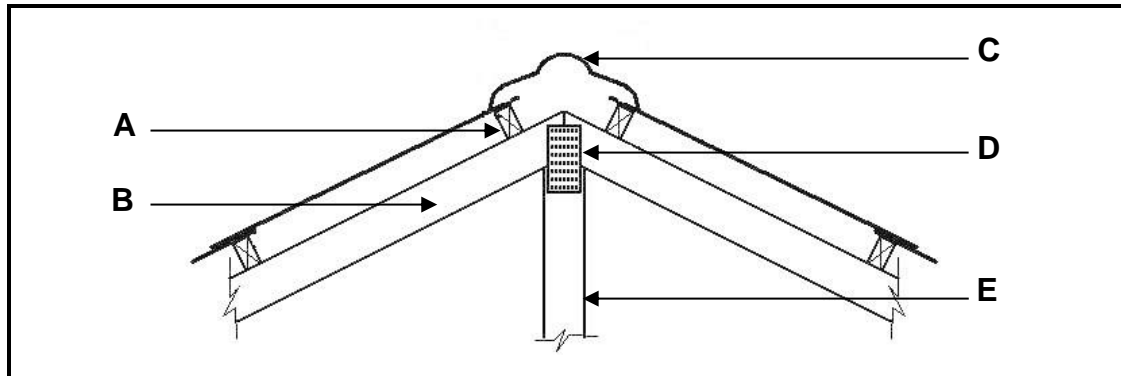

FIGURE 3.3
- 3.3 Answer the following question with regard to roof construction in FIGURE 3.3.